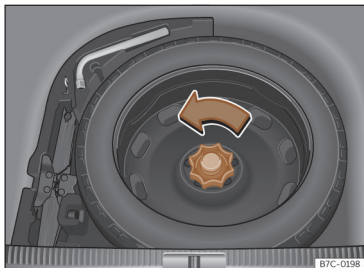

Fig. 208 In the luggage compartment: load floor raised.
- Turn the thumb wheel anti-clockwise »» **Fig. 208**.